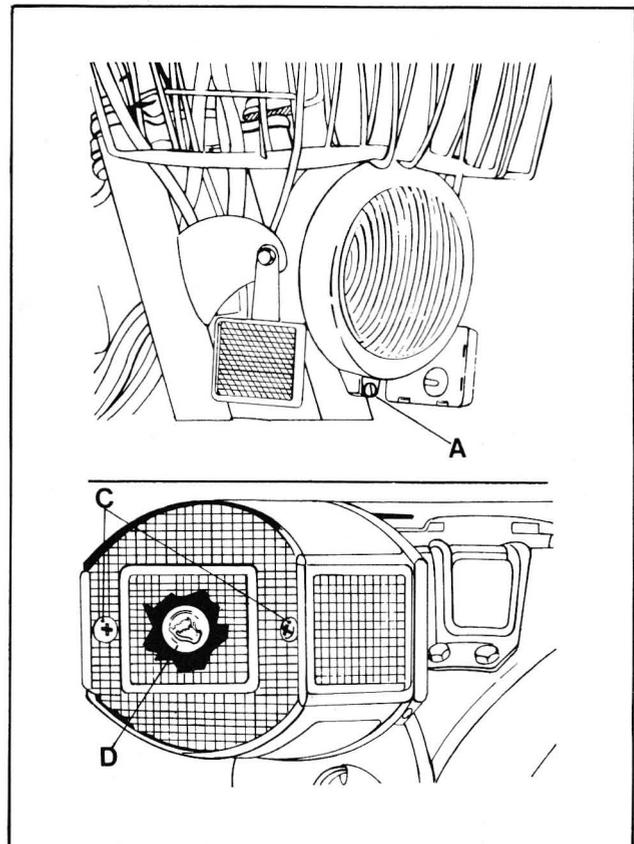

Fig. 15
must be 20-25 mm. The lever «C» actuates the stoplight cutout (D) and the tail light bulb «D» Fig. 15 lights on;
Headlight (Fig. 15)
Tail light (Fig. 15)